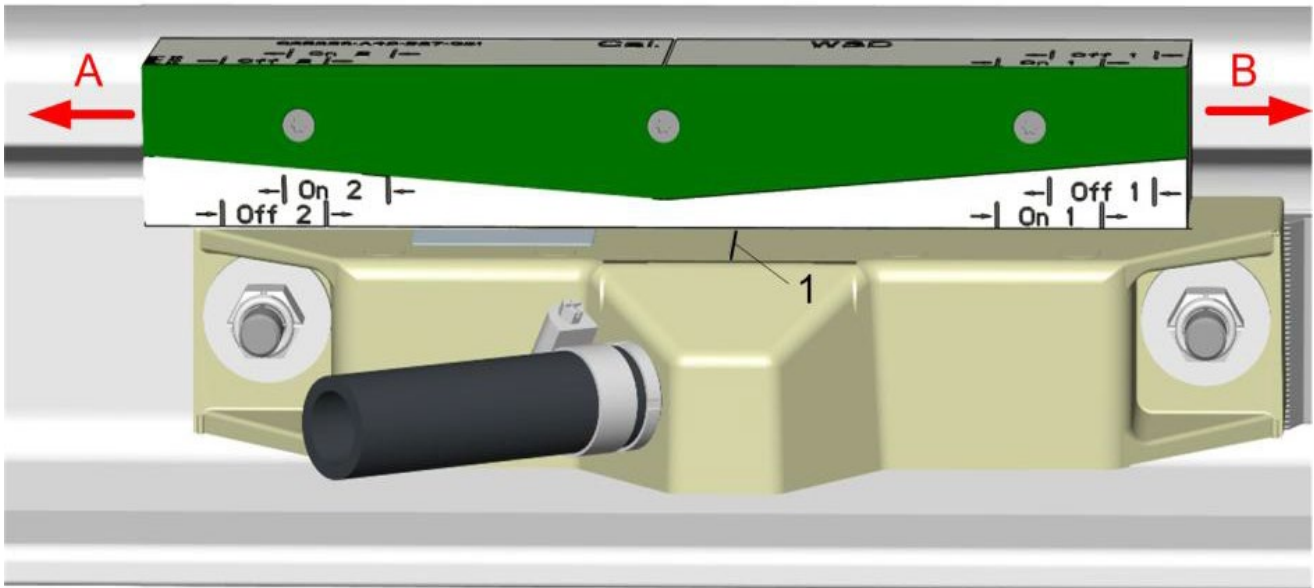

Figure 4 – Movement back towards A
- 1.11 Move the adjustment gauge back in direction A (see figure 4)until the measured current has dropped to a value between 1.3 mA and 2.99 mA. Then check whether the center marking (1) on the wheel detector is between the "On 2" markings on the adjustment gauge. A tolerance of 10 mm on both sides of the "On 2" markings is permissible.